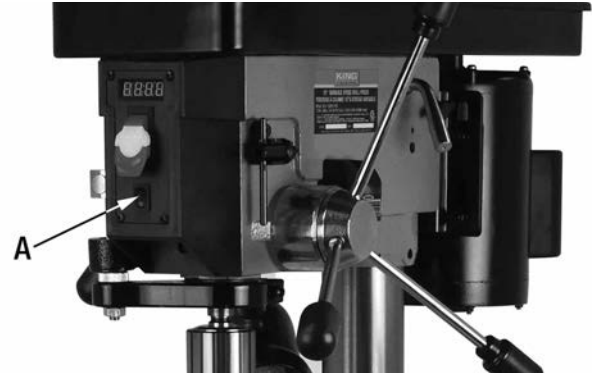

FIGURE 17
- 1) The dual laser guide system can be turned On/Off using the front mounted laser switch (A) Fig.17.